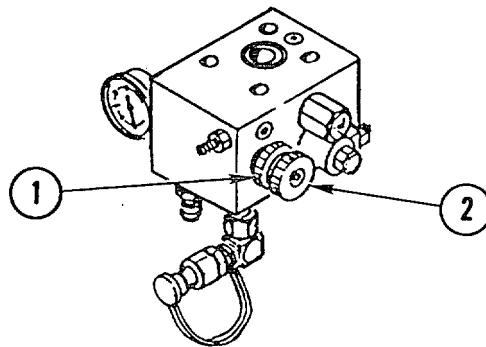

Figure 2-9. LV Boom Pressure Assembly Adjustment
- (9) If pressure is now between 900-1200 psi, loosen jam nut (1) on primary manifold pressure adjustment knob (2), shown in figure 2-9, and adjust knob for desired boom pressure.